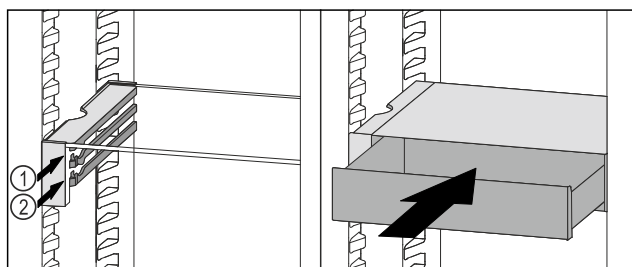

Fig. 110
- Place the VarioSafe drawer behind the stoppers on desired rib Fig. 110 (1) or Fig. 110 (2).